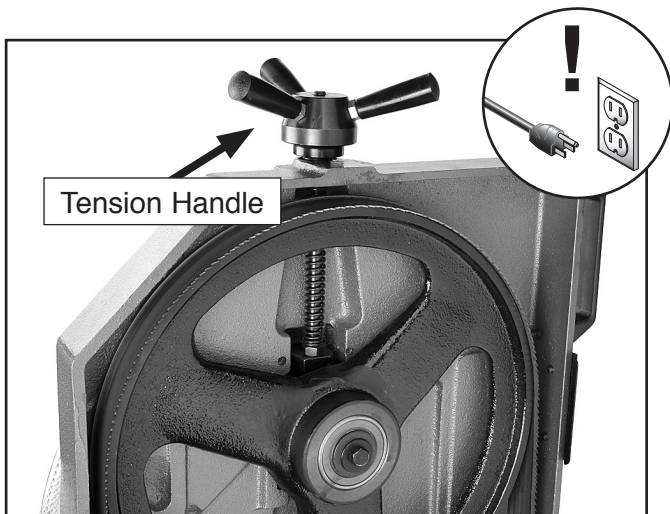

Figure 34. Tension handle and blade.
4. Loosen the tension handle in **Figure 34** and slip the blade off of the wheels.